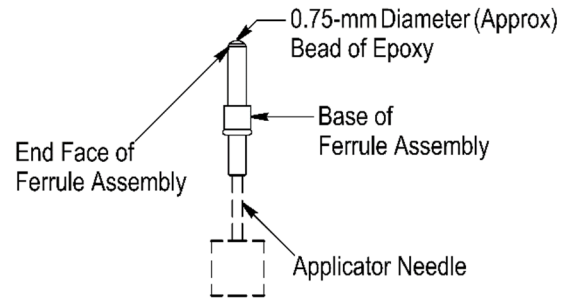

Figure 7
2. Hold the ferrule assembly vertically, and insert the needle tip into the base of the ferrule assembly until it is against the back (end closest to the base) of the ferrule assembly. Refer to Figure 7.